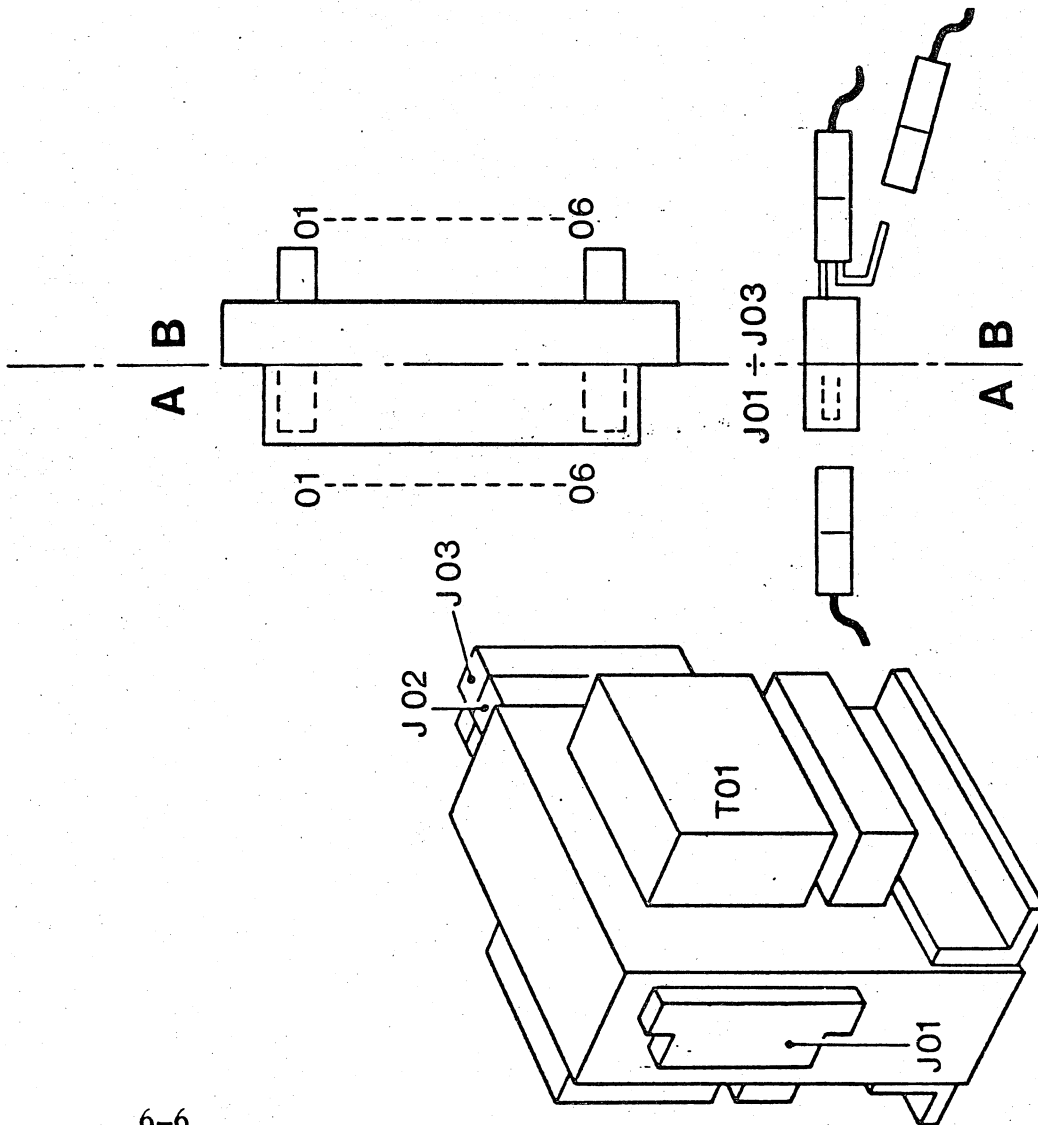

Fig. 6.2
- 5) Verify the correct cables and jumpers connection on the transformer terminal strip, as per fig. 6.2.